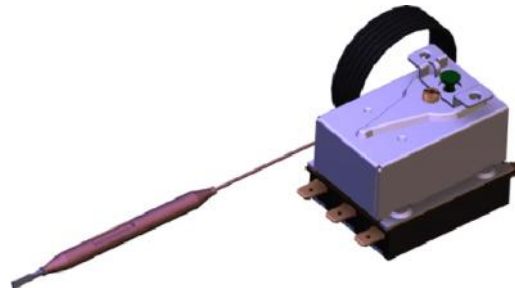

Figure 9. Thermostat on automatic
- The boiler must be located at a safe distance from combustible materials. The boiler must be far enough from possible obstacles in the boiler room for cleaning and maintenance. See **figure 9**.
- **Thermostats in the automation of the boiler (Figure 9)**
Within the automation itself that leads the combustion process and influences the work of two cycles of heating, there are two thermostats. Both are of similar construction as the thermostat shown in **figure 9** and they have safety functions as limiters of the temperature of water in the boiler. Because of the safety role in the functioning of the boiler, both thermostats have the independent probes for measuring of water temperature. The first thermostat is the so-called „working thermostat” work and it serves to limit the temperature to a level the user wants. Another thermostat is the „safety thermostat” because it stops the operation of the fan which favors the flame, and adds a new energy. Safety temperature is limited to 95 degrees Celsius. **It is very important to connect the pump for heating through automation for safety reasons. When the temperature of water in the boiler reaches the critical value of 95 degrees the fan stops working, but the pump is necessarily switched on to exchange the heat of water through radiators.**